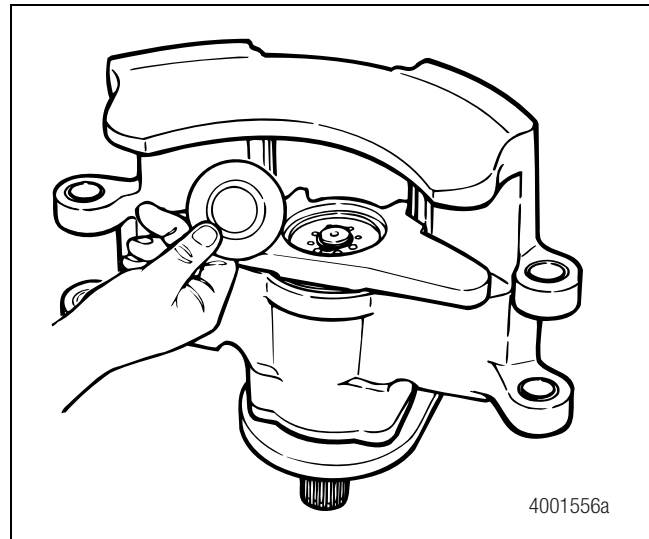

Figure 5.2
2. Remove the pressure relief valve from the caliper. Place a rag over the piston. Carefully apply air pressure through the relief valve hole to force the seal from the caliper. Figure 5.2.